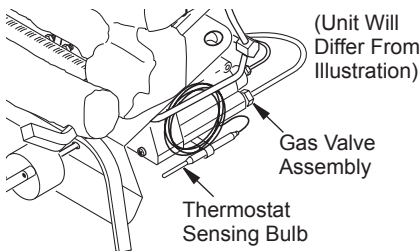

Figure 28 - Location of Gas Valve Assembly and Thermostat Sensing Bulb
1. Locate the gas valve assembly and thermostat sensing bulb (see Figure 28).